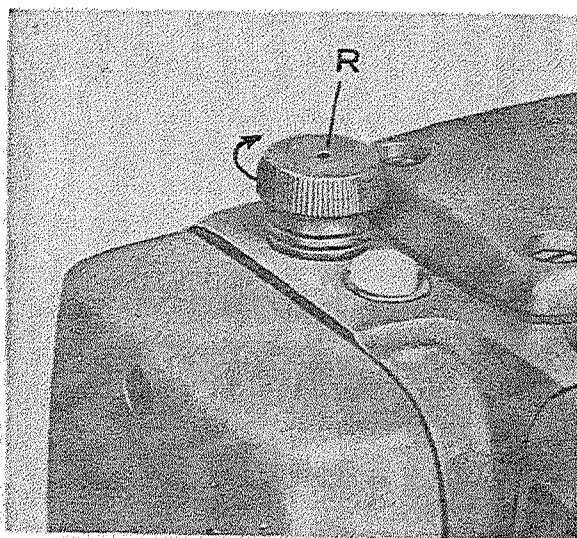

Fig. 10
The pressure of the presser foot on the material is regulated by the Regulator Screw (R) (Fig. 10) on top of the machine. Turn this regulator to the left to decrease it. Do not employ more foot pressure than is required to feed the material properly.